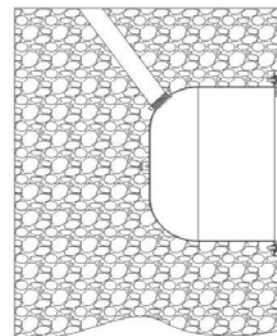

Figure 5
5. The light niche must be installed within the pool wall, make sure the niche does not exceed the wall surface. (See Figure 5).
① Concrete swimming pools